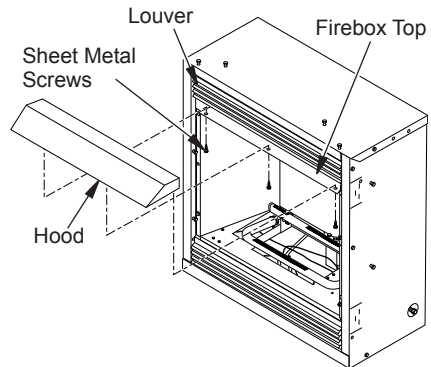

Figure 4 - Assembling Hood
6. Insert screws as shown in Figure 4. Tighten screws firmly.